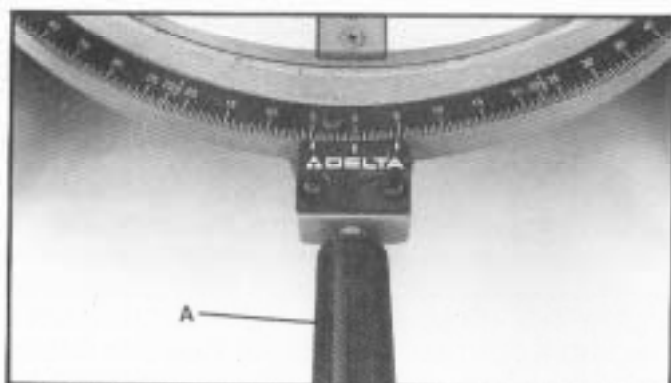

Fig. 20
1. Move the control arm to the center of the scale until the spring loaded positive stop engages into the factory drilled indent located directly under the 0 degree mark on the scale and tighten the lock handle (A) Fig. 20.